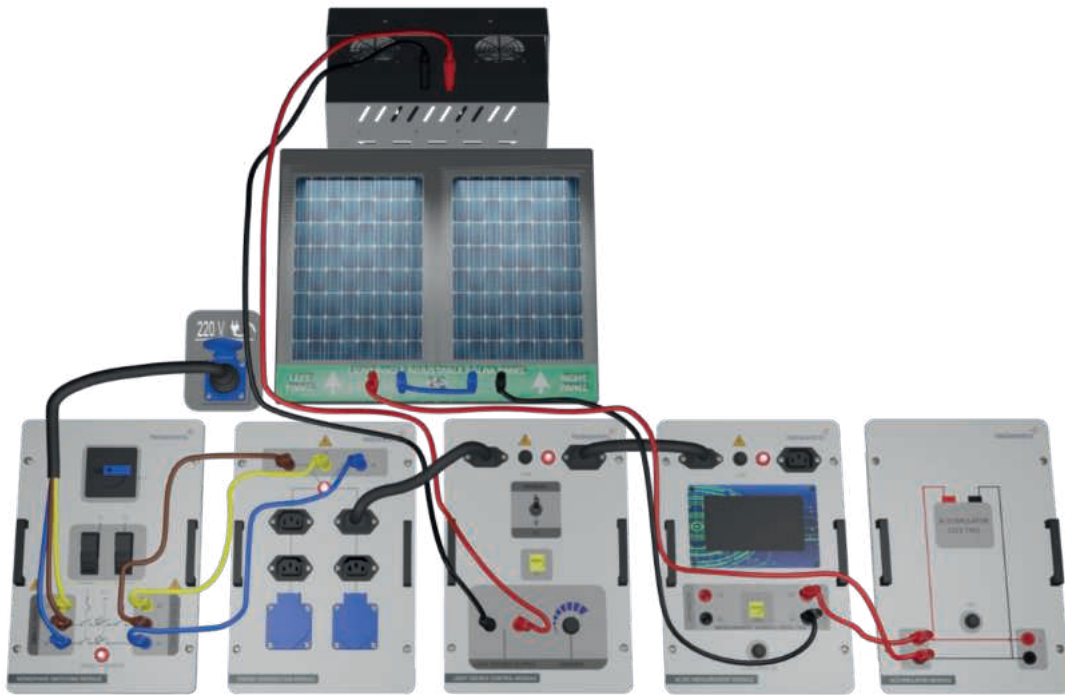

Figure-62. Installation Image of Examination of the Effect of Blocking Diode in Photovoltaic Panels
1. Set up the connection as specified in Figure-62. Ensure a constant level of light in the laboratory by creating an average scenario. Any alterations to the positions of the lamps or curtains will have an impact on the experimental outcomes.